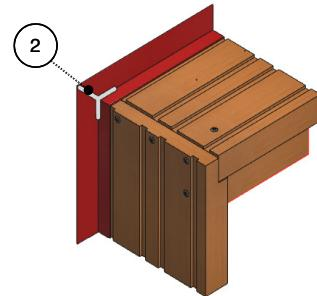

Figure 2
- Add galvanized nailing fin sealant on mitered joints, perimeter and sides. Gasket is then placed at each top corner. (Figure 2 & 3)